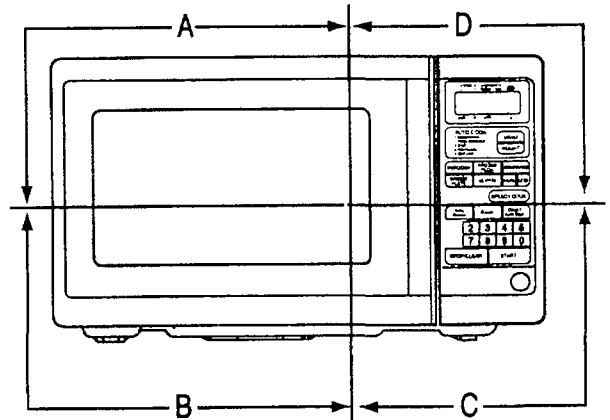

Figure 4
- a. To reduce gap located on part "A". (*Figure 4*)